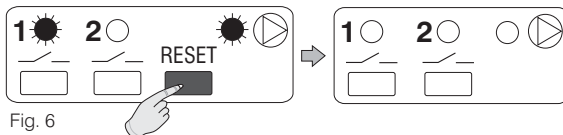

Fig. 6
- Briefly press the **"RESET"** key; when released the temporary forced control is cancelled (fig. 6).